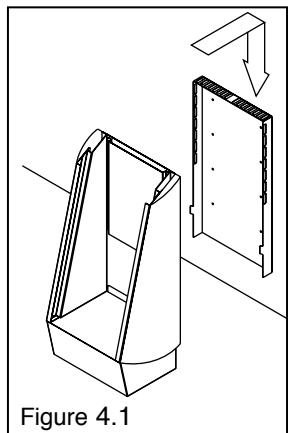

Figure 4.1
- Attach the stove to the fittings of the fastening plate that has been installed on the wall (Fig. 4.1).